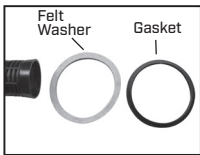
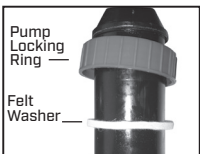

Figure 5
Figure 6
6) Pressure Chamber Housing Gasket and Felt Washer: Slide both the gasket and felt washer off the pressure chamber body (Figure 5). Replace felt washer first taking care not to fold over washer as it is worked up the pump chamber and into the pump locking ring (figure 6). The felt washer is pre-lubricated to provide lubrication between the pressure chamber housing and pressure chamber housing gasket. Ensure the felt washer is free of contamination before installing. Replace gasket into the pump opening in the tank insuring the flanged end is up (if this is assembled backwards leakage will occur) (Figure 7). Insure that the sides of the gasket are inside the tank pump opening and the flange is sitting level on the tank pump opening seal surface area.